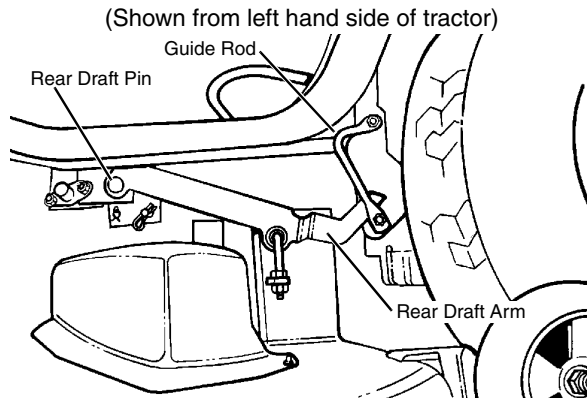

FIG. 37
- Remove spring pin clips from two rear draft pins holding rear draft brackets to mower frame. (See FIG. 37)
- Lower deck lift lever to lowest position, while centering rear draft arms in guide rods. (See FIG. 37)